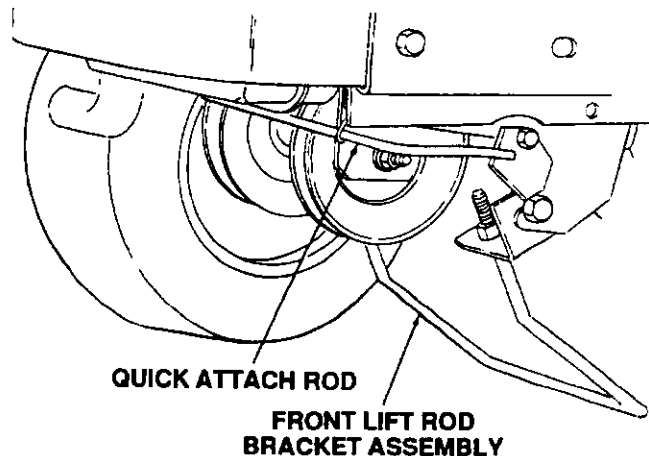

Figure 13
8. Release the tractor quick attach rod so it is held against the tractor frame by the spring thereby securing the front lift rod bracket assembly in the tractor latch receivers. (Refer to Figure 13.)